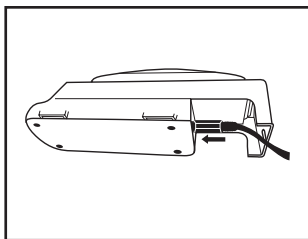

Fig. 1a
- 3M™ Single Station Battery Charger TR-641N: Insert the DC supply cord from the 3M™ Power Supply TR-941N into the cradle. (Fig. 1a). Plug the power cord into an AC power source (100-240V), such as a wall outlet.